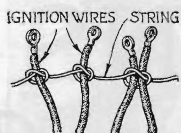

Fig. 7. Tie wires with string to help you remember the binding post to which each belongs
**I**T IS simple enough to disconnect the wires and remove any part of the ignition system of an automobile, but the trouble comes when you try to replace the part and connect it up properly. Unfortunately, wire terminals all look alike and unless you mark them there is no way of telling to which binding posts they should be fastened. One simple way is to take a piece of string and as you disconnect a wire tie a knot around it as shown in Fig. 7. All you have to do is to remember the order in which you remove the wires—a simpler job than writing out a separate tag for each one. If you are disconnecting wires at widely separated points, use a different piece of string for each group.